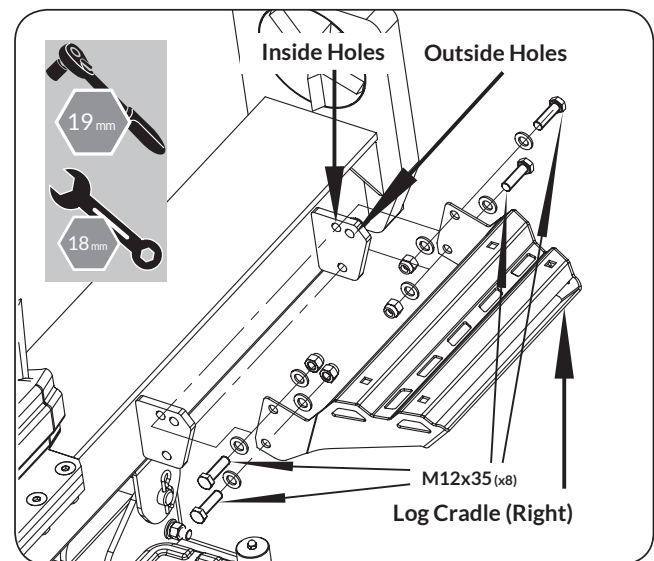

Figure 10
2. Follow step 1 to assemble the left log cradle. (See **Figure 10**)
Refer to **Figures 10** and **11** to install the work table. Remove the bolts, flat washers, and nuts from the inside holes. Move the log cradle from the incline position to the horizontal position. Align the holes on the log cradle with the outside holes on the beam mount. Reinstall the bolts, flat washers, and nuts.